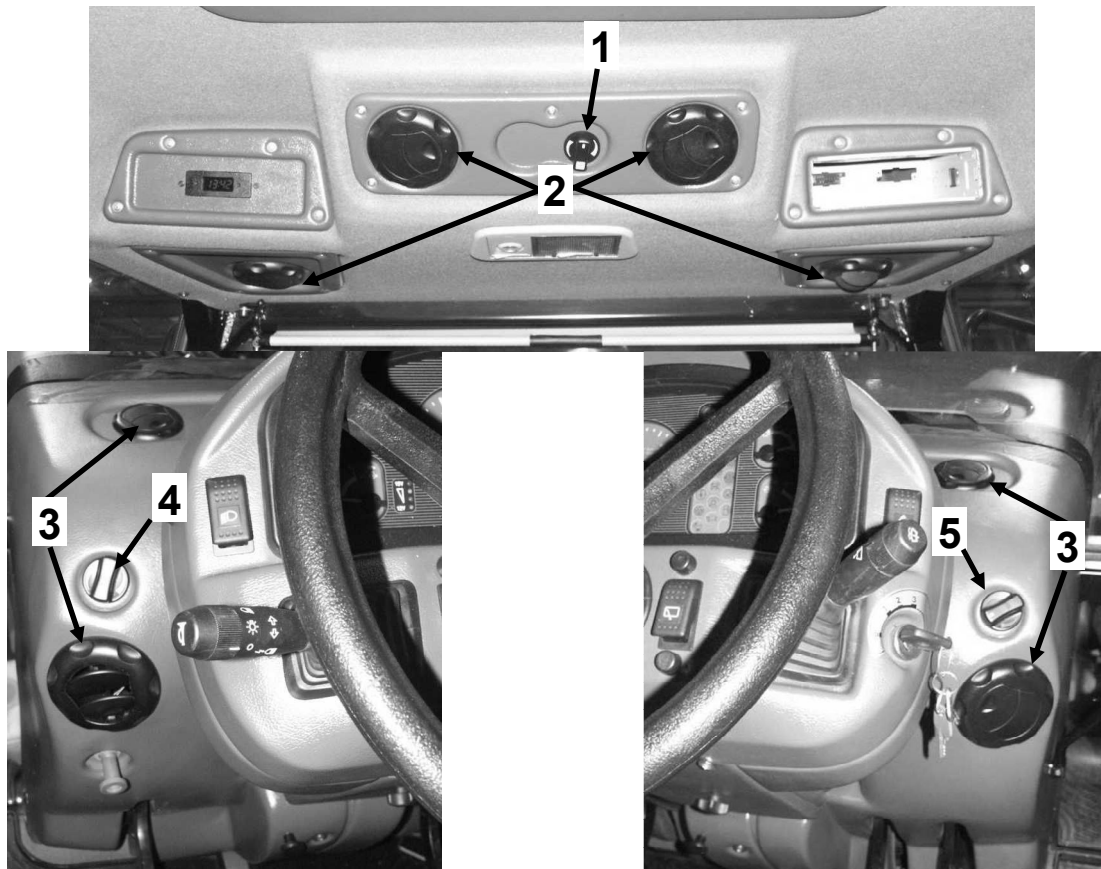

Fig. D-11 Ventilation & heating of the cab.
At positive temperatures the control knob **5** (fig. D-11) for air blow temperature should be off, when the cab ventilation is on.
- to increase the heating effectiveness switch on the fan **4** (fig. D-11) and set the air inlet flaps **3** (fig. D-11) for optimum value;
- set the knob **5** (fig. D-11) to required position.